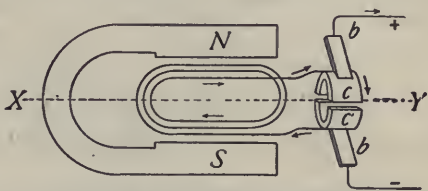

FIG. 291.—The armature coils are connected to a commutator producing a direct current.
brushes. Such a current which repeatedly reverses its direction is called an *alternating current*. Fig. 291 (1) indicates graphically how the current moves alternately one way and then the other. Alternating currents are extensively used for electric *light, heat, and power*. *Direct currents* or those going continuously in one direction are however in much demand especially for *street car service, for electrolysis, and for charging storage batteries*.
armature. This reversal of connection when the direction of current changes, keeps the current in the outside circuit flowing in the same direction. Fig. 291 is a diagram of an armature with a commutator. The commutator is a *split ring*, having as many parts or *segments* as there are coils upon the armature. The brushes touch opposite points upon the commutator as they slide over the surface of the latter. Suppose that the armature viewed from the commutator end rotates in a counter-clockwise direction, also that the currents from the upper part move toward the commutator and out the top brush.